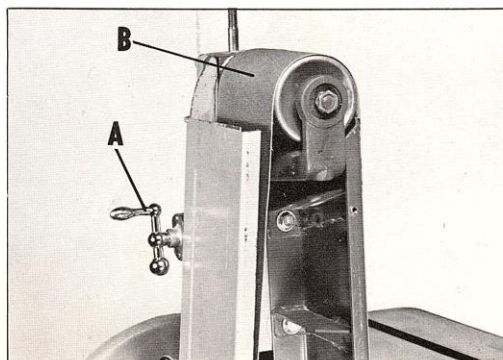

Fig. 4.
2. Turn the belt tension handle (A) Fig. 4, counter-clockwise to reduce tension to a minimum. NOTE: It may be necessary when reducing tension that downward pressure be applied on the idler pulley (B).
Tension on the sanding belt is supplied by turning the belt tension handle (A), Fig. 4, clockwise to increase or counterclockwise to decrease belt tension.